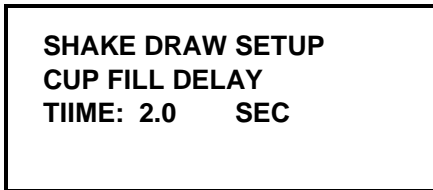

Figure 101
- The last screen in the Shake Draw Setup is the CUP FILL DELAY. The setting range is 0.0 to 3.0 seconds, adjustable in increments of 0.5 seconds. The recommended setting is 2.0 seconds. The CUP FILL DELAY is adjusted to prevent the fill sensor from prematurely ending the draw due to product splashing in the cup or by detecting a temperature change when product begins to dispense. (See Figure 101.)